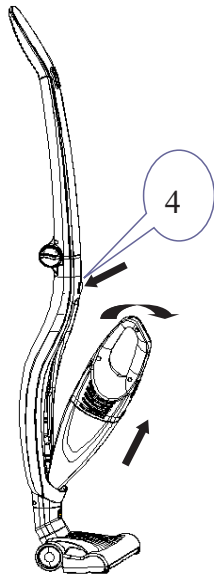
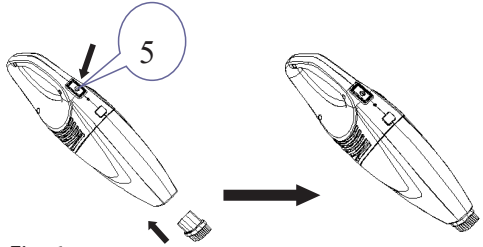
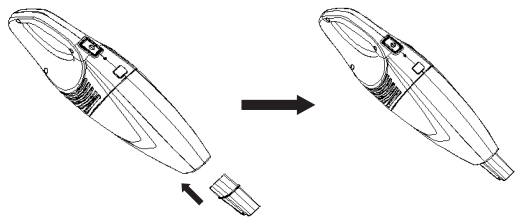

Fig. 5
Fig. 6
Fig. 7
Press down the sub-unit release button (4) (see Fig. 5), grasp the handle of sub-unit to remove it by following the arrow shown, and then press down the sub-unit switch (5) (see Fig. 6), the sub-unit enters into working condition, and you can press the switch (5) to make it stop working.
suction nozzle of sub-unit by following Fig. 6, and then activate it again; If need to use crevice nozzle, insert it into the suction nozzle of sub-unit by following Fig. 7, and then activate it again.